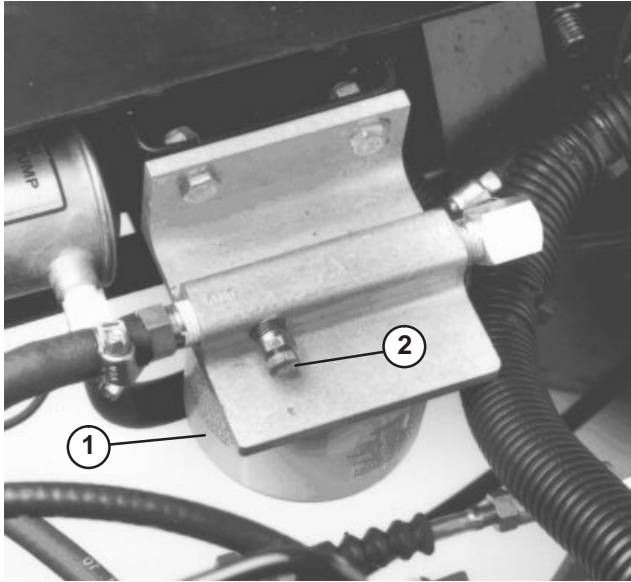

Figure 25
1. Loosen air bleed screw on top of fuel filter/water separator (Fig. 25).